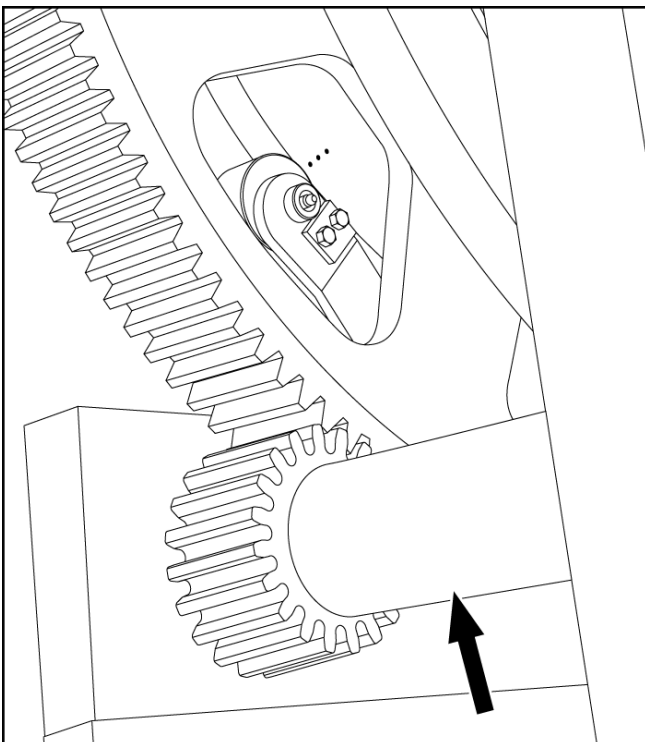

Figure 11.6 PINION SHAFT
11.2.5 Pinion Shaft (figure 11.6 and 11.7)